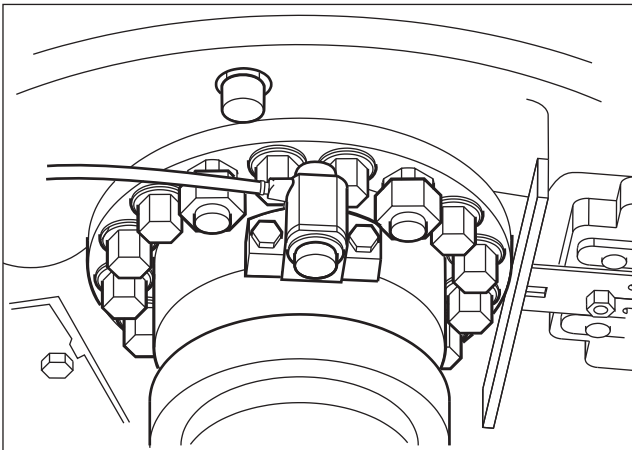

Fig. 3.20
21. Fit the bracket with the sensor in place. Fig. 3.20